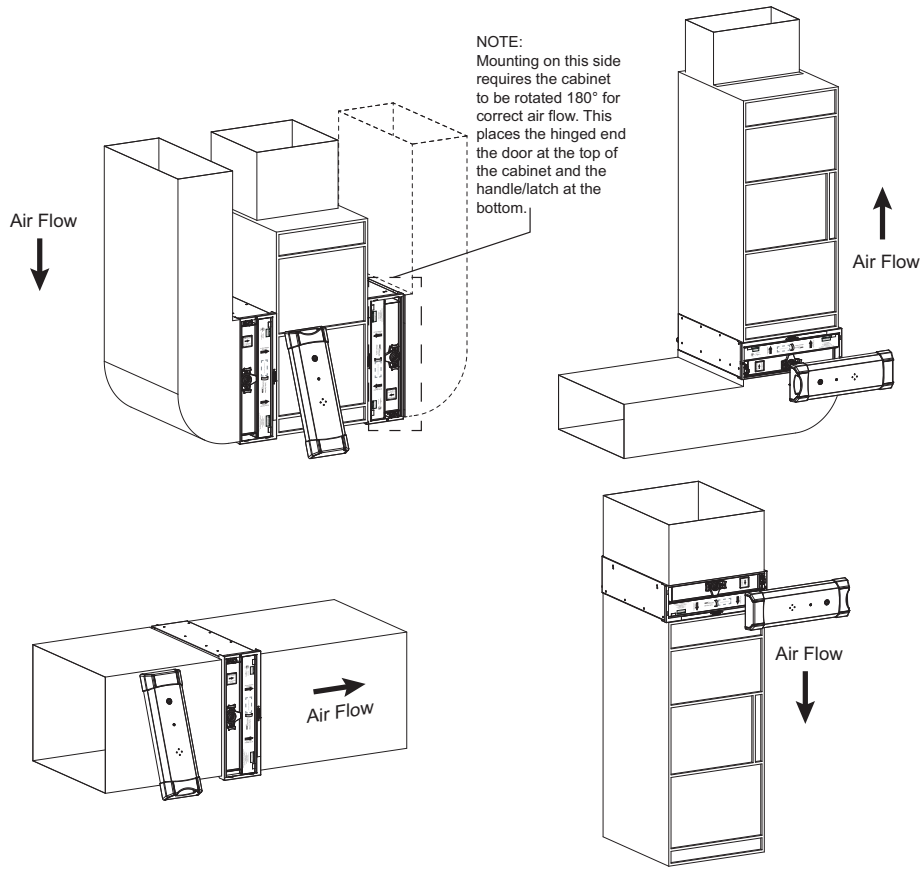
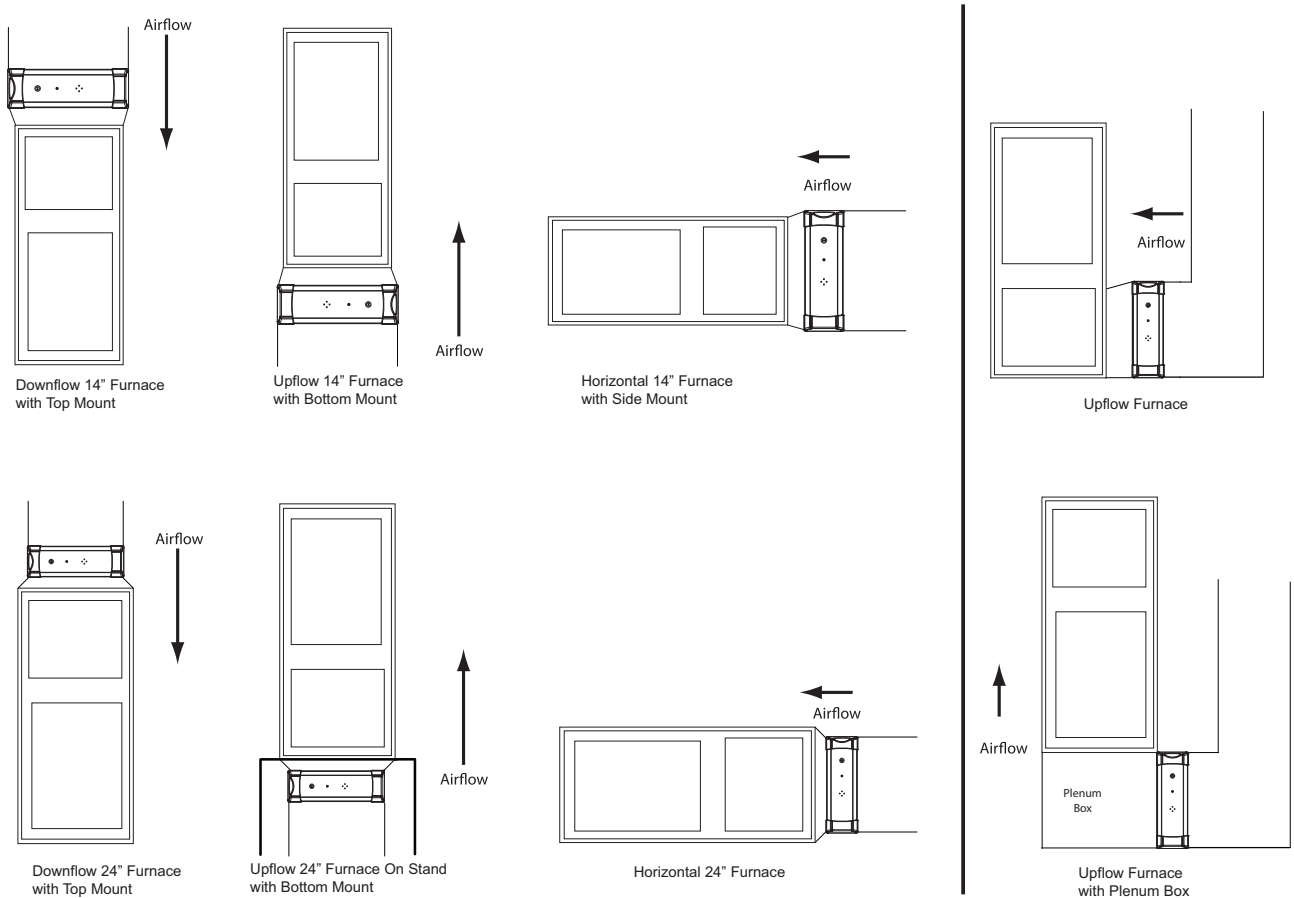

Fig. 3 – Air Purifier Cabinet Orientation
Fig. 4 – Air Purifier Cabinet Orientation with Transition
1. Identify a mounting orientation for the air purifier in the return air duct (Fig. 3 and Fig. 4).
5. Position the cabinet between the furnace and return air duct (Fig. 3, Fig. 4, and Fig. 5). A transition duct may be required. On some furnaces, one or more screws may interfere with the ease of removal of the purifier door. In this case, replace the interfering screw(s) with pop rivet(s). Removing the screws without replacing them with pop rivets may have an adverse effect on air sealing or structural integrity of the furnace.